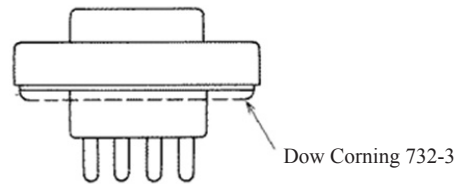

Fig.2
E. Coat the sealing surface of the voltage plug with Dow Corning 732-3 as shown in Fig.2.